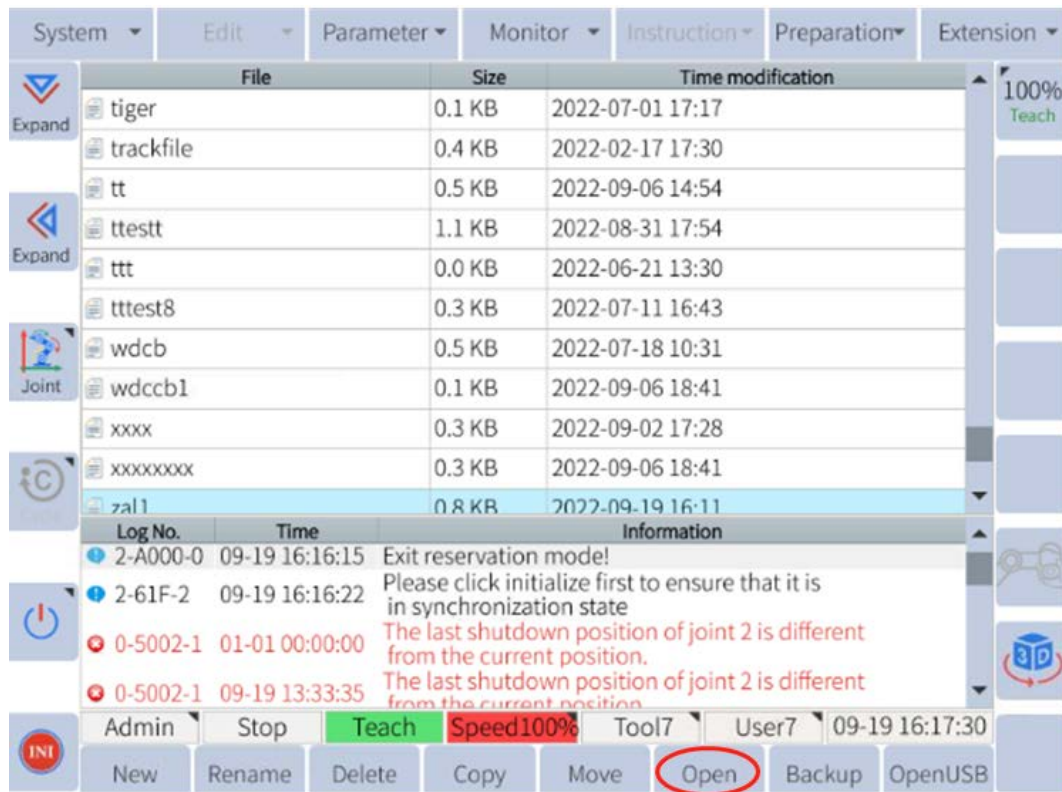

Figure 1-1 : Program list page
1. Turn on the controller and switch to TEACH mode. Go to main page where all program files are listed as shown in **Figure 1-1** . Create a new program file or open an existing one.